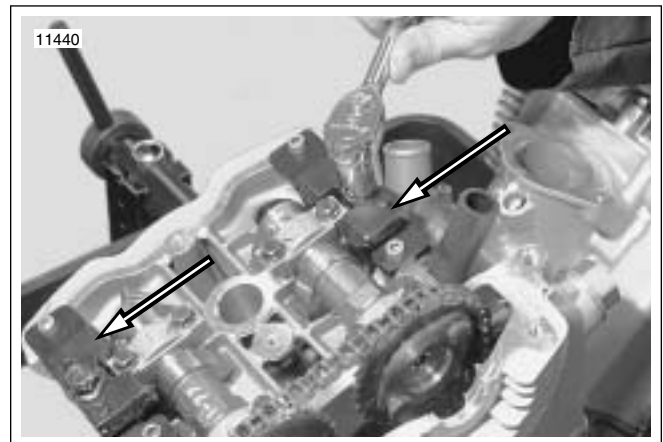

Figure 3-28. Tappet Compressing Tools (HD-45491) (typical)
17. See Figure 3-28. For this procedure, the front cylinder cams are pre-loaded. Install TAPPET COMPRESSING TOOL (HD-45491) on front cylinder to aid in disassembly.